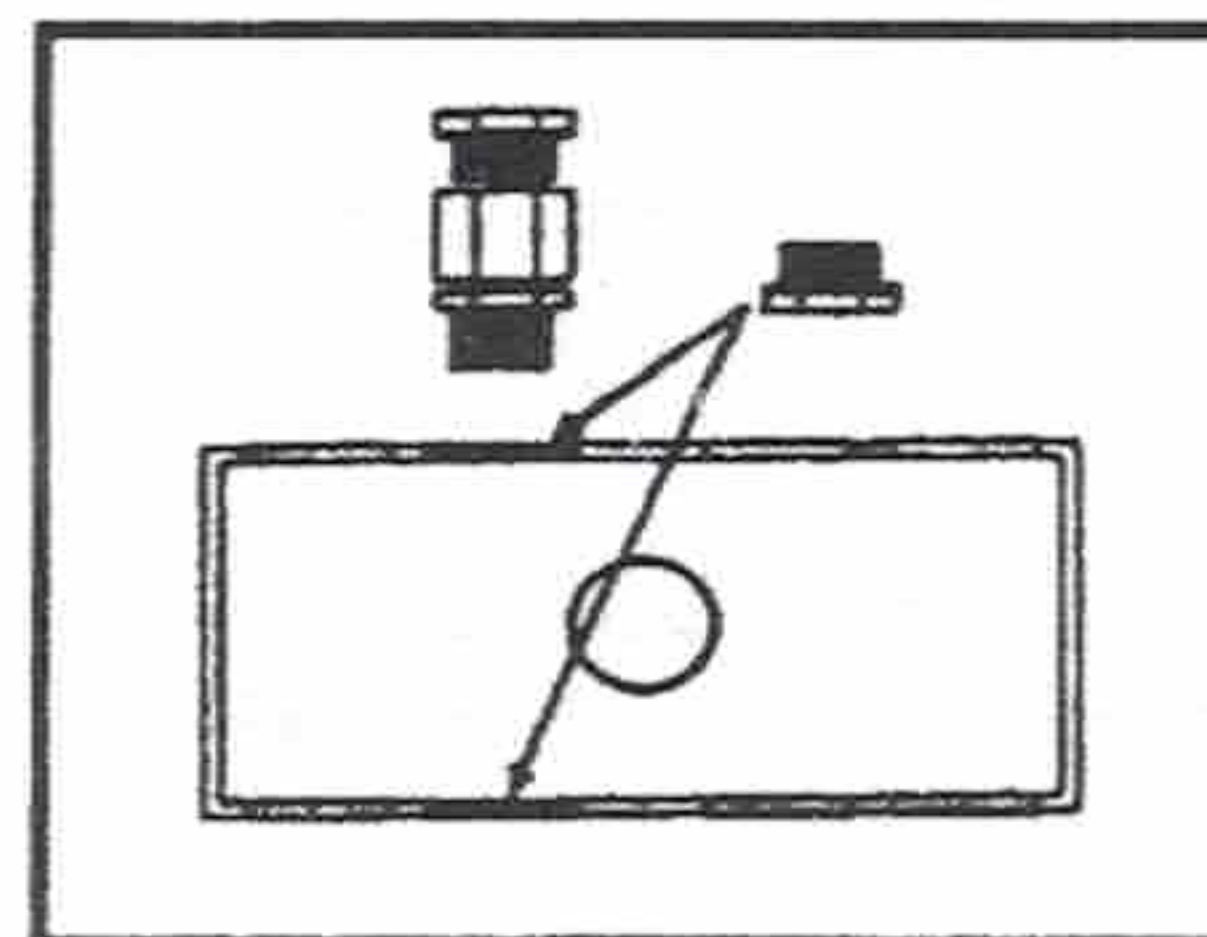

Fig. 1:
A double gang metal wall box (min. depth 45mm), with knockouts suitably located, and integral earth stud (Refer Fig. 1 for knockout positions).
If using flexible cable, suitable glands incorporating cable clamps must be fitted to the knockouts in the Controller Box. (Refer to Fig. 1).
- 3 Praticare fori di ingresso per i cavi nella cassetta di plastica o di metallo aprendo i relativi fori ciechi (vedere fig. 1).